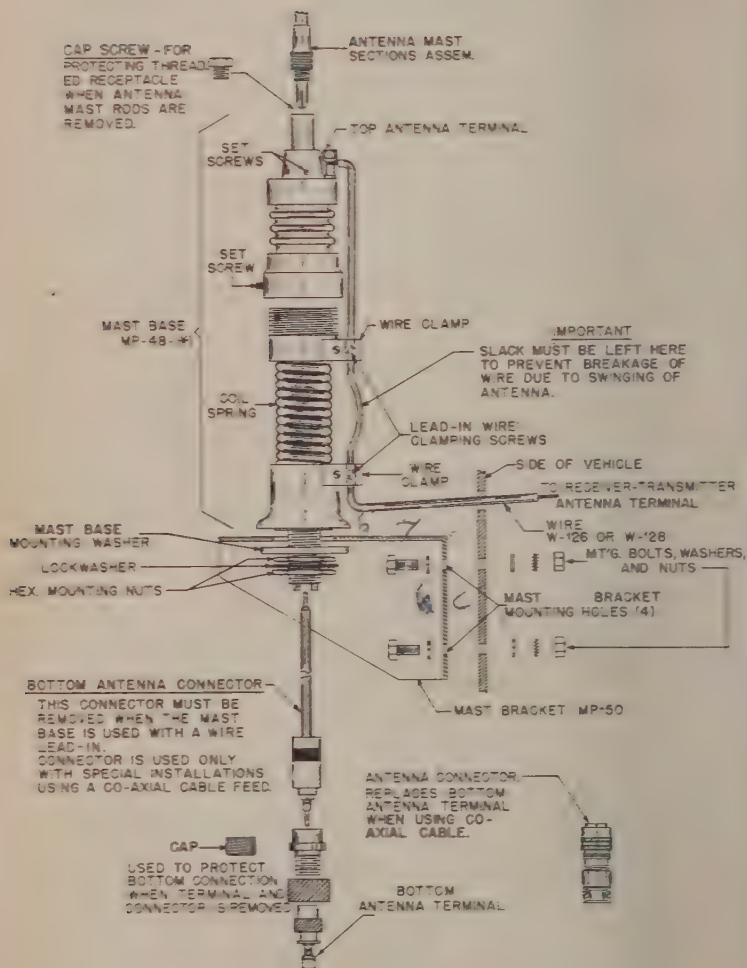

Figure 8. Vehicular Antenna Assembly
(4) Unpack the mast bracket* and mount it on the outside of the vehicle, using suitable bolts or screws. Mount it in the position that is best suited to the limitations of the vehicle and to the mounting space requirements for the radio set. As indicated in paragraph 5c(2), it is better to place it close enough to Mounting FT-250-(*) so that the length of the antenna connecting lead can be 3 foot (± 1 inch).
(5) Assemble Mast Base MP-48-(*) to Mast Base Bracket *MP-50 or *MP-54. Connect the antenna terminal of the receiver and transmitter to the top terminal of the mast base. Use Wire W-126 or W-128 3 feet (± 1 inch) long, routing it through the guides of the mast base. (Fig. 8). Be sure to remove the inner connector of Mast Base MP-48-(*) when using a wire lead-in, otherwise the range of the set will be reduced about 50 percent. Place mast base Cover BG-108 over the complete assembly.